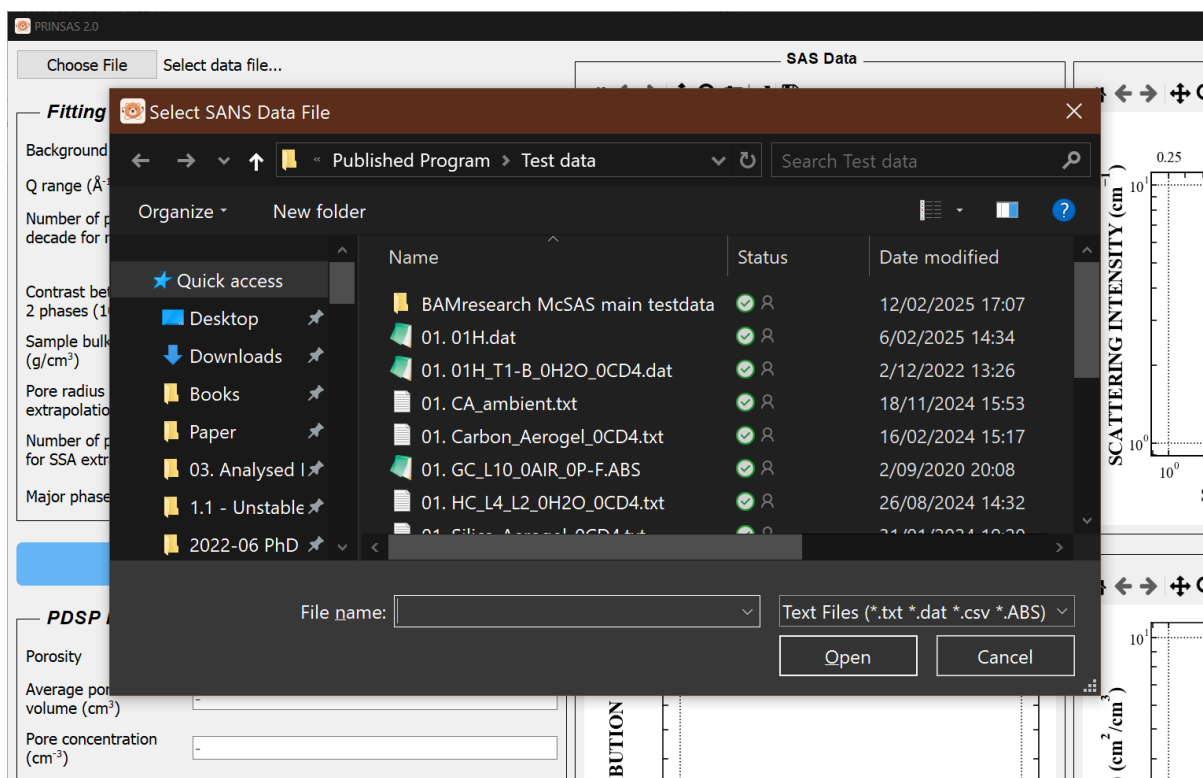

Figure 3.1. Pop-up window for selecting a data file.
- (i) Click the ***Choose File*** button. A pop-up window will appear to allow selection of the desired data file (**Figure 3.1**).